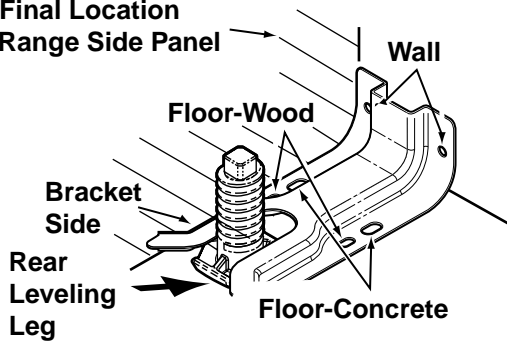

Fig. 1
- If the bracket side of the range has an adjacent cabinet, place the bracket against the back wall and cabinet as shown in Fig. 1. If there is a countertop overhang, offset the bracket by the amount of overhang. If there is no adjacent cabinet, place the bracket to the outside edge of the range side panel and back wall.
- Locate the centers of the four holes identified in Fig. 1 as Floor-Wood and Wall.
- Locate the center of the four holes identified in Fig. 1 as Floor-Concrete and Wall. Drill the recommended size holes in each.